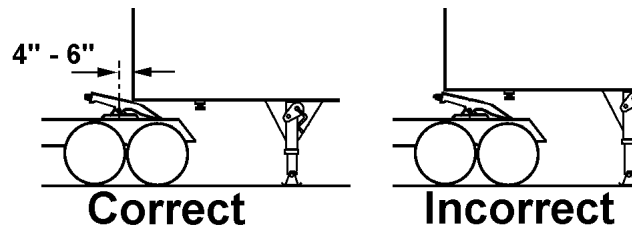

Figure 3-3 Coupling Truck to Trailer
6. Inspect the height of the trailer vs the fifth wheel. The kingpin plate on the front of the trailer should first contact the fifth wheel 4-6 inches rearward of the fifth wheel centerline. See figure 3-3. The trailer should raise slightly when the truck is backed under it. If the trailer is too low, the truck may strike and damage the front of the trailer. If the trailer is too high, it will not couple correctly. Adjust the landing gear as needed to achieve the correct trailer height.